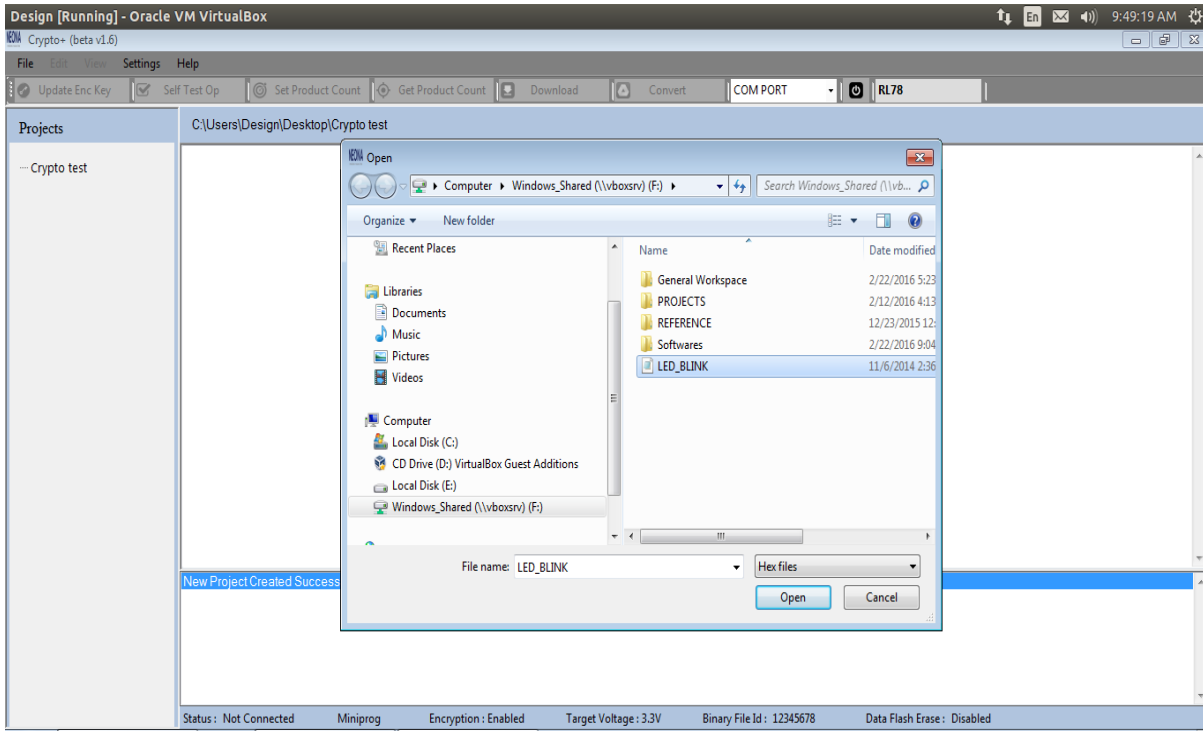

Figure 2.22
STEP 3: Select the required file and click **Open** button in the Open Dialog-box as shown in figure 2.22.